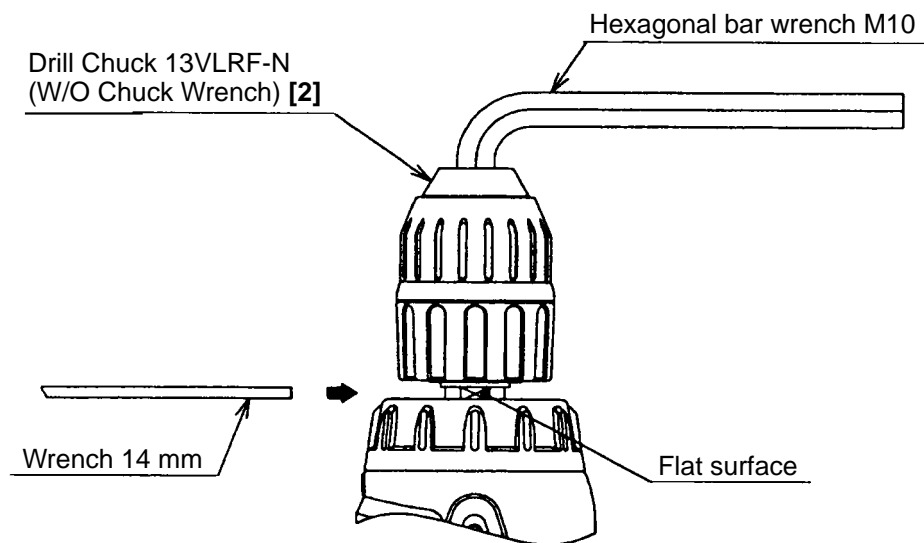

Fig. 4
(1) Removal of the Drill Chuck 13VLRF-N (W/O Chuck Wrench) **[2]** (See Fig. 4.)
- (b) Fix the hexagonal bar wrench M10 into the Drill Chuck 13VLRF-N (W/O Chuck Wrench) **[2]** as indicated in Fig.4. Next, apply the Wrench 14 mm (special repair tool, Code No. 873929) **[601]** to the flat surfaces on the spindle to hold it steady, and remove it by turning counterclockwise. If it is difficult to loosen, use a pipe extension or similar tool.